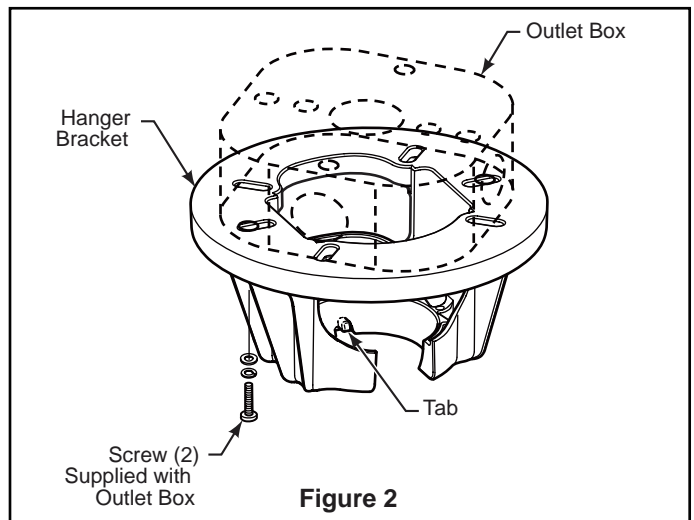
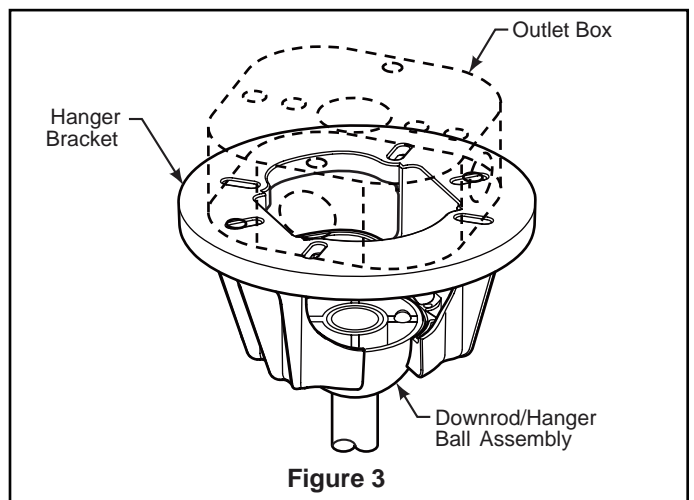

Figure 2
Figure 3
2. Remove the hairpin clip and clevis pin from the bottom of downrod. Retain the pin and clip for reinstallation in Step 4 (Figure 2).
3. Loosen the two set screws in the downrod support. Route black, blue and white lead wires through the downrod (Figure 3).
1. Securely attach the hanger bracket to the outlet box using the outlet box screws and washers supplied with the outlet box (Figure 2).
**NOTE:** Outlet box screws pass through slotted holes of the hanger bracket (Figure 2).
3. Carefully lift the fan and seat the downrod/hanger ball assembly on the hanger bracket that was just attached to the outlet box (Figure 3). Be sure the groove in the ball is lined up with tab on the hanger bracket (Figure 2).
1. To set the transmitter code, remove battery cover by pressing firmly below arrow and sliding cover off. Slide code switches to your choice of up or down position. Factory setting is all up. Do not use this position. With a small screwdriver or ball point pen slide firmly up or down. Replace battery cover on the transmitter (Figure 2).
2. To set the receiver unit code, slide code switches to the same positions as set on your transmitter (Figure 3).